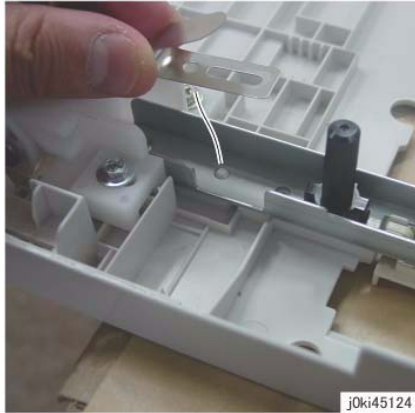

Figure 4 Align the Ground Plate
3. Align the Ground Plate to the positioning boss. (Figure 4)